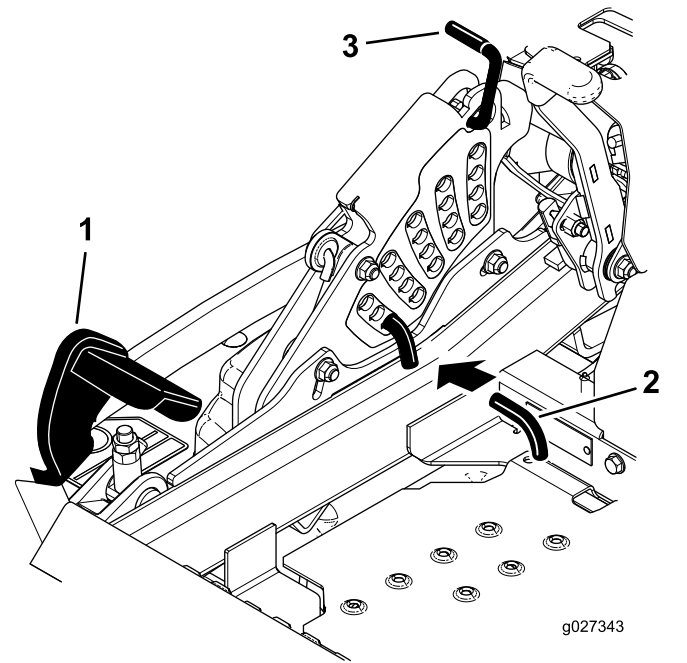

Figure 93
5. Push the deck-lift pedal all the way forward and the deck latches at the 14 cm (5 1/2 inches) TRANSPORT position (Figure 93).